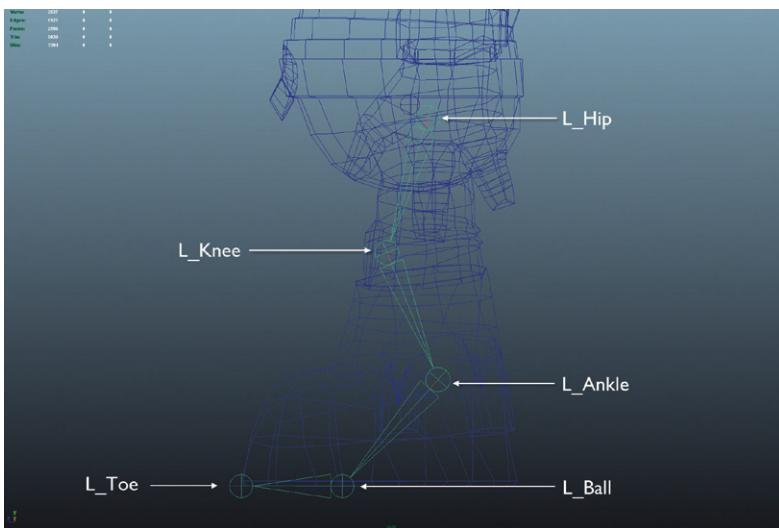

FIG 8.4 Creating the leg joints.
Step 5: Still in the side View Panel, create five joints for the hip, knee, ankle, ball, and toe (Fig. 8.4). This time when using the Joint Tool, simply click and release for the placement of each joint and hit the Enter key after creating the last joint (the toe; Fig. 8.4). Label them as L_Hip, L_Knee, L_Ankle, L_Ball, and L_Toe.